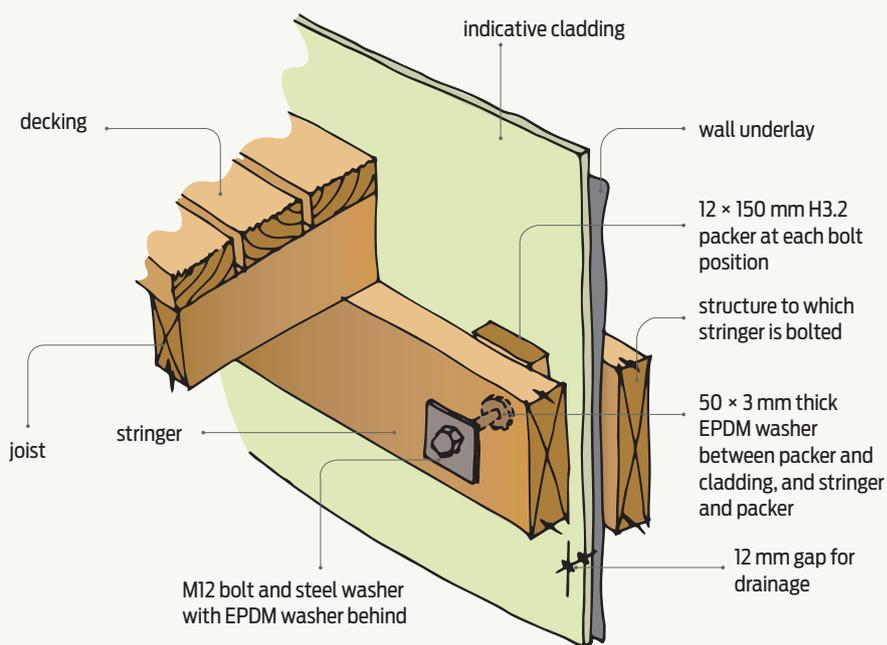

Figure 2 Connection of deck stringer to cladding – direct-fixed.
- a 12 mm minimum gap between the building cladding and decking for drainage and maintenance (E2/AS1 paragraph 7.1.1) (see Figures 2 and 3)